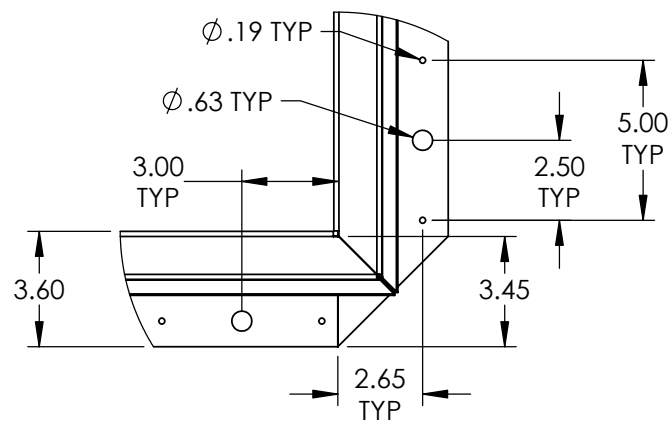

fig. 1
2. The roof hatch curb flange comes with two (2) types of mounting holes to accommodate multiple fastening methods practiced and accepted at a local level.
- Mark the pre-drilled diameter holes from the mounting flange through to the roof deck or a concrete curb. Reference table below for hardware and placement. Drill for installation of anchors or other fasteners (provided by others). Bolt or otherwise fasten roof hatch curb flange to roof deck, fig. 1.